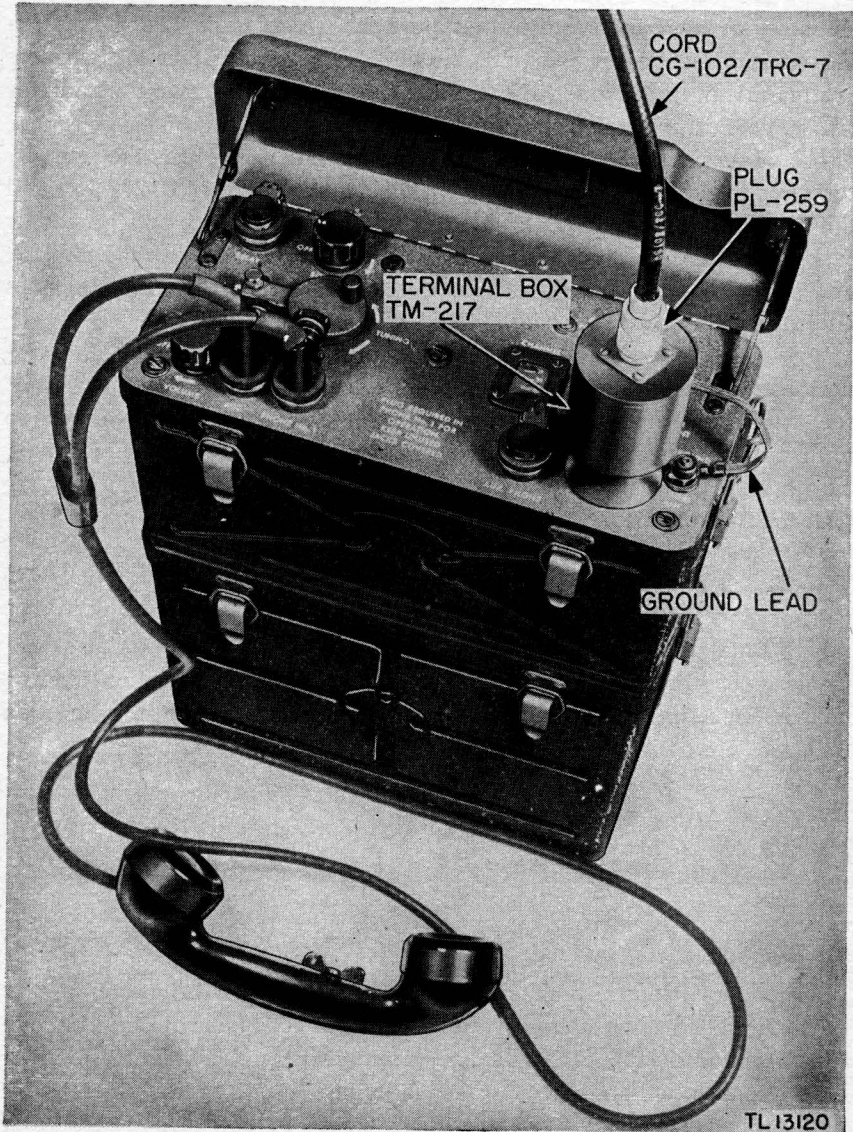

Figure 35. Fastening the coaxial cord to the terminal box attached to Radio Receiver and Transmitter BC-1000-A.
(7) *Fastening coaxial cord to terminal box* (fig. 35). Terminal Box TM-217 is screwed into the radio set antenna insulator. The ground lead of the terminal box is connected to the GROUND FOR SHORT ANT. binding post on Radio Receiver and Transmitter BC-1000-A. Connect the other end of the coaxial cord to the coaxial fitting at the top end of the terminal box. Screw down tightly and cover the connection with rubber tape.